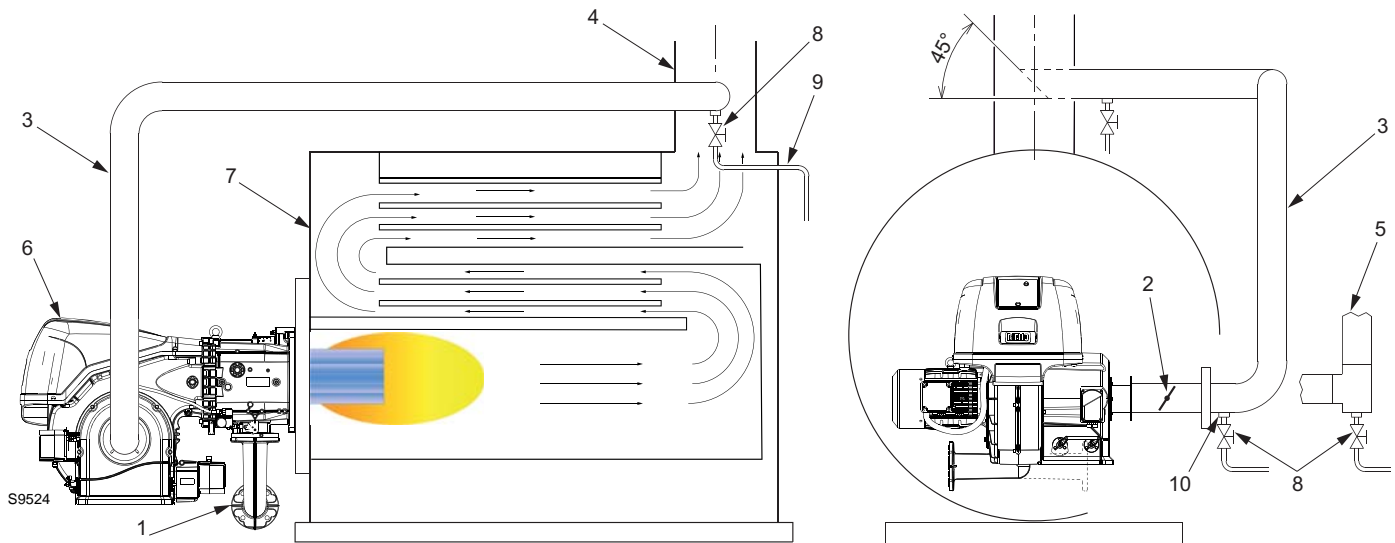

Fig. 18
- Normally the duct would connect to the stack as shown in Fig. 18, with a 45° cut facing the flue gas flow and with the center of the cut centered in the stack.
Key (Fig. 18)